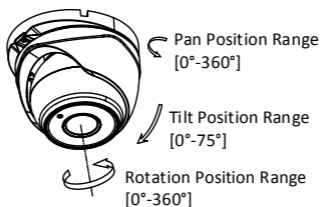

Figure 2-10 3-axis Adjustment
- Adjust the camera according to Figure 2-10 to get an optimum angle.